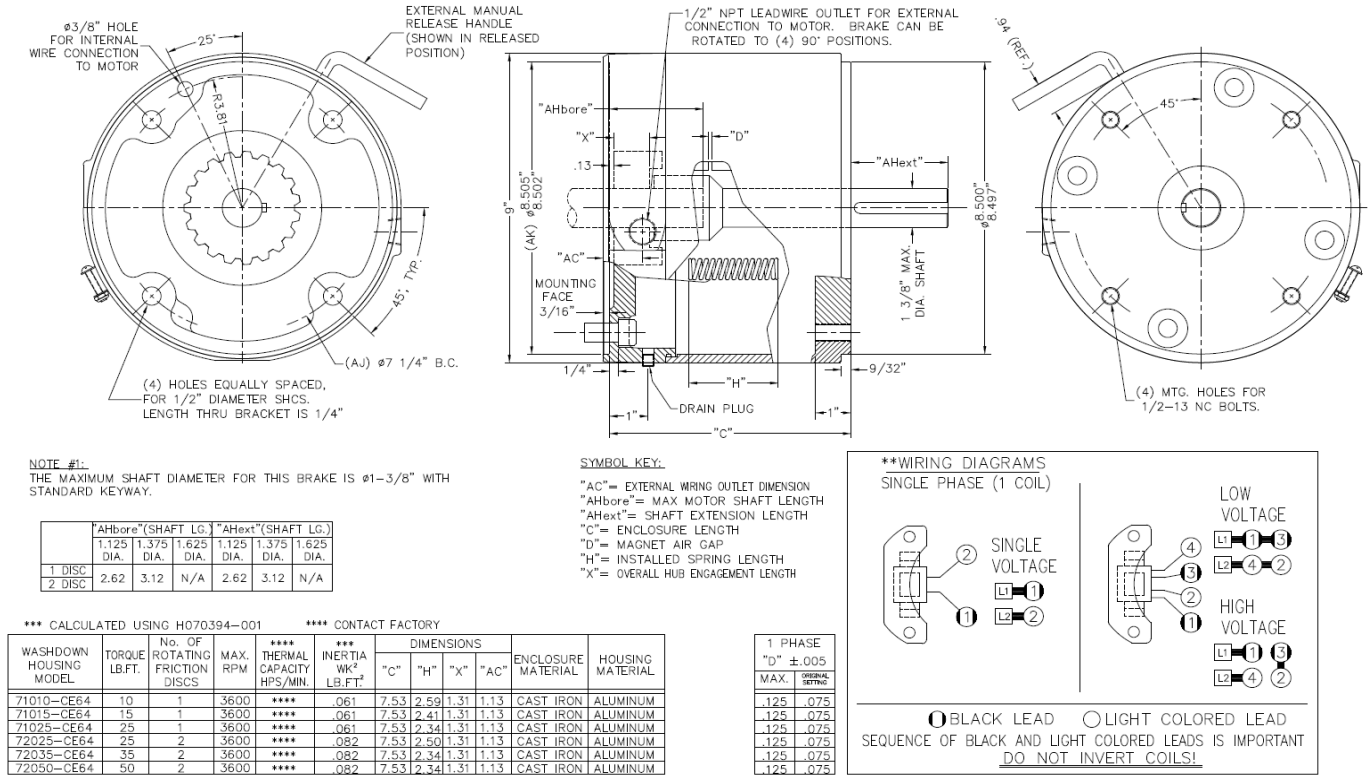

Figure 1 - Brake Outline
INSTALLATION (See Figures 1, & 2, Table 1)
1. Remove hub (99) from brake and position on motor shaft with key according to dimension "N" per figure 1. Stamped part number on hub should face away from motor. Tighten hub set screws with 18 lb.ft. torque.
3. For IP56 (NEMA4) version, place gasket (91) onto motor side mounting face with mounting holes aligned.
4. Place brake on motor, guiding discs onto and through the hub. For IP56 (NEMA4) version, use caution not to pinch or damage the gasket (91).
5. Insert and install the 1/2 SHCS through the housing windows at four spots and secure and tighten each one to motor "C" face using an extended length ball end hex key brake. See Figure 1 to help in determining proper bolt length. Final bolt thread pitch, length and mounting torque is dependent on the material and depth of the threaded holes in the mounting face.
9. Connect coil leads per appropriate wiring diagram in Figure 1.